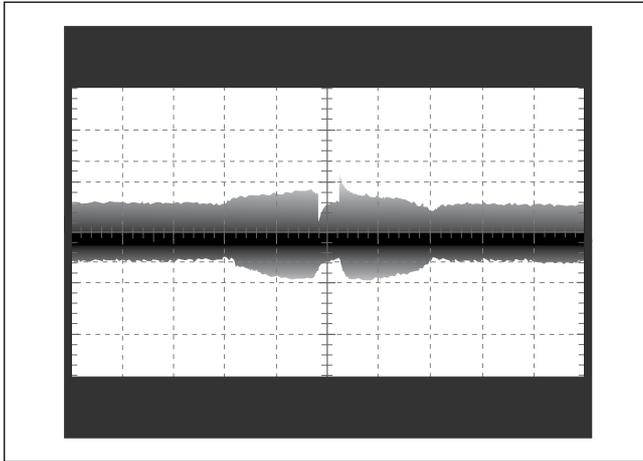
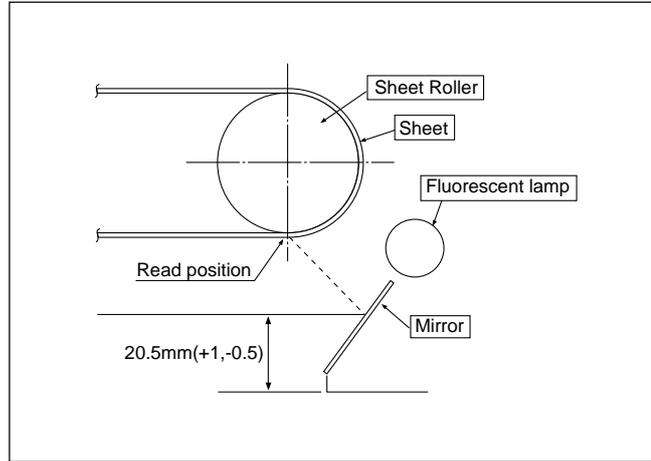
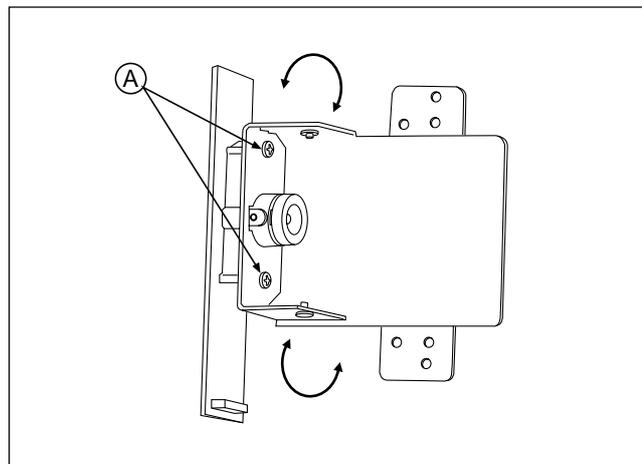

Fig. 11
Fig. 12
Fig. 13
## 9) Confirmation of reading position. (See Figures 11 and 12.)
- When the vertical lines fall in level by more than one-third of the P-P waveform as shown in Figure 11. (Confirm that the vertical lines exist in the read position shown in Figure 12.)
## 10) Torsion adjustment of CCD Unit. (See Figure 13.)
- Loosen screw A shown in Figure 13, and fix screw A when the waveforms shown in Figure 11 become symmetrical.
## 11) Focus adjustment. (See Figures 12, and 14 to 17.)
- Move a sheet so that the test patterns of horizontal lines are displayed on an oscilloscope (so that the horizontal lines exist in the read position shown in Figure 12). (By manual operation.)